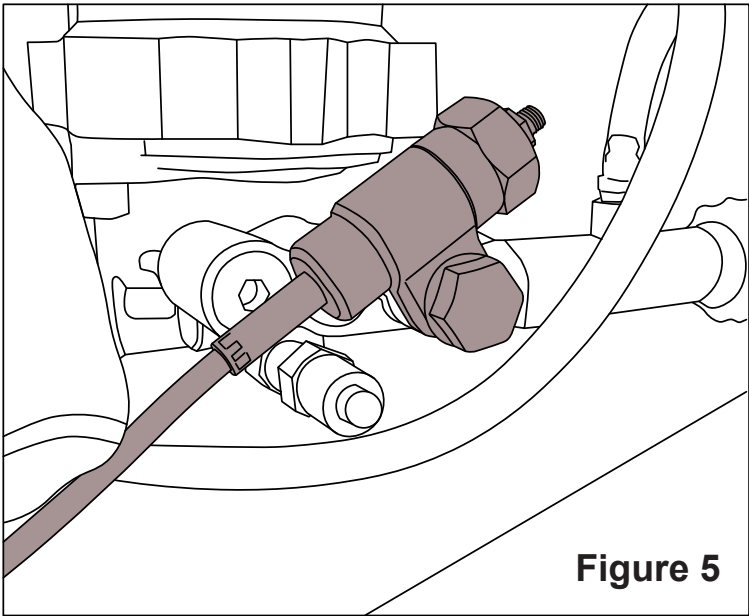

Figure 5
2. Route the idle valve cable under the soap tank and use a 17mm socket and driver to install the idle valve onto the pump. Failure to properly torque the idle valve retaining bolt with a torque wrench to the manufacture listed settings could result in the retaining bolt breaking upon installation. (Figure 5)